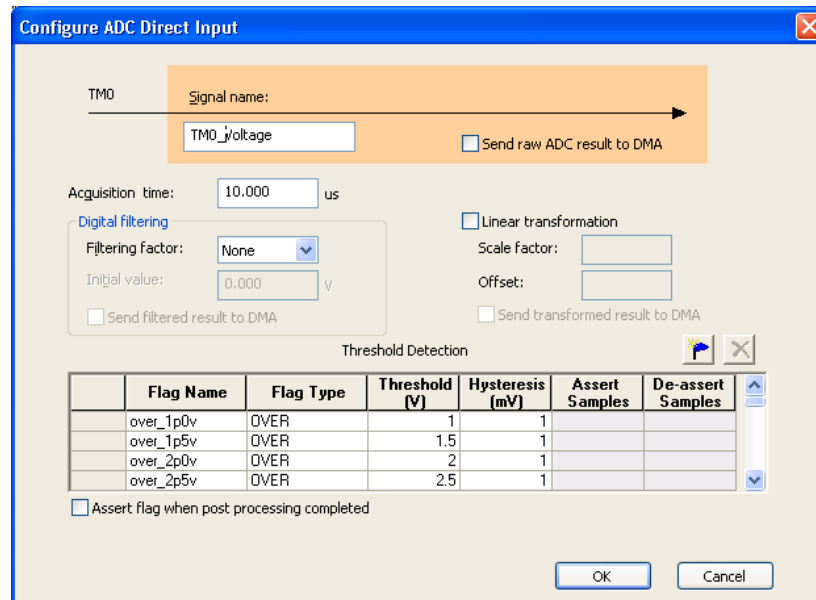

Figure 9 · MSS ADC Direct Input Configuration
2. Select **ADC Direct Input** and click **Add** (or double-click ADC Direct Input) and enter the parameters as shown in Figure 9 · .